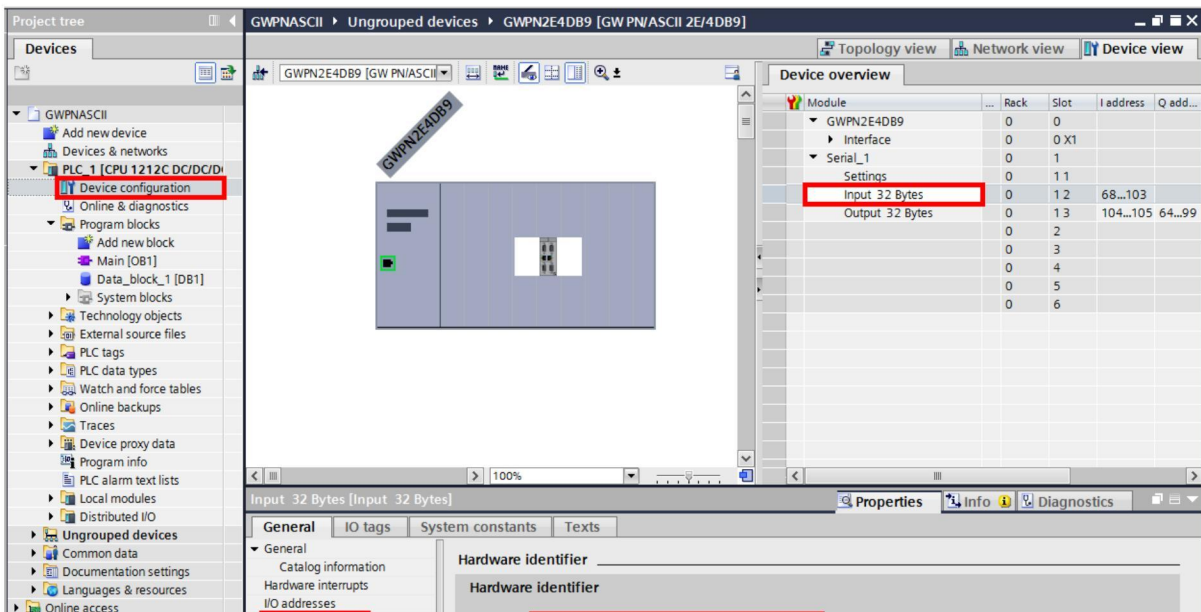

Figure 29 Hardware identifier
13. Add a DPWR_DAT instruction. The "LADDR" field is the hardware identifier of the Serial Output block, similar to the DPRD_DAT instruction (see Figure 29). The "RECORD" field is the entire output buffer from the data block.